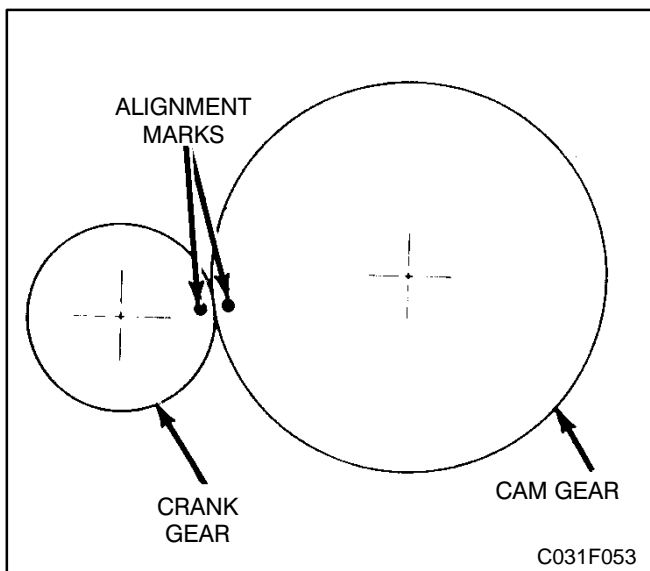

FIGURE 9-7. CAM GEAR AND CRANKGEAR ALIGNMENT
4. For installation, apply oil to the tappets and the tooth surface of the cam gear. Align the marks on the cam gear and crank gear as shown in Figure 9-7.